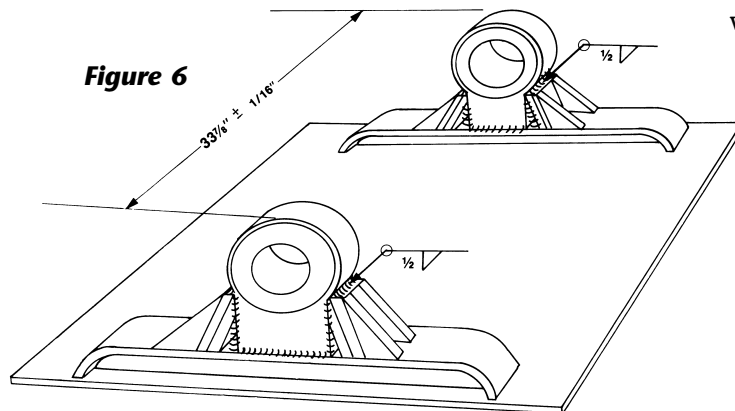

Figure 6
5. Slide the new bracket caps supplied in the rebuild kit between the remaining bracket cap sections. *See Figure 6*.
6. Adjust the new bracket caps in and out until they are $33\frac{7}{8}$ " across the outside of the new bracket caps. *See Figure 6*.
9. Finish welding, as outlined in *Figure 6*, developing a continuous $1/2$ " fillet weld.